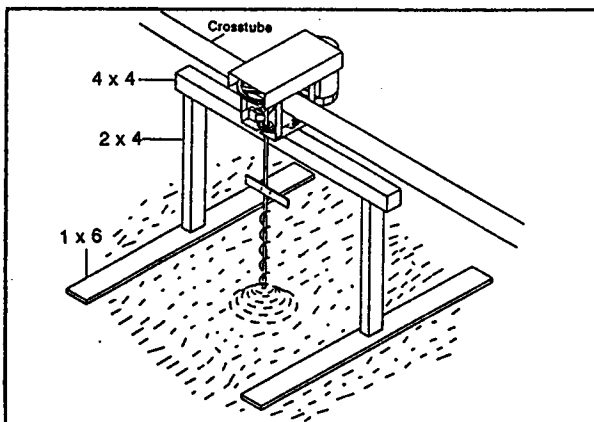

FIG. 25 - RESTARTING AUGERS
1. Support carriage as shown by laying flat board on top of grain. This will prevent distortion of the crosstube. FIG. 25.